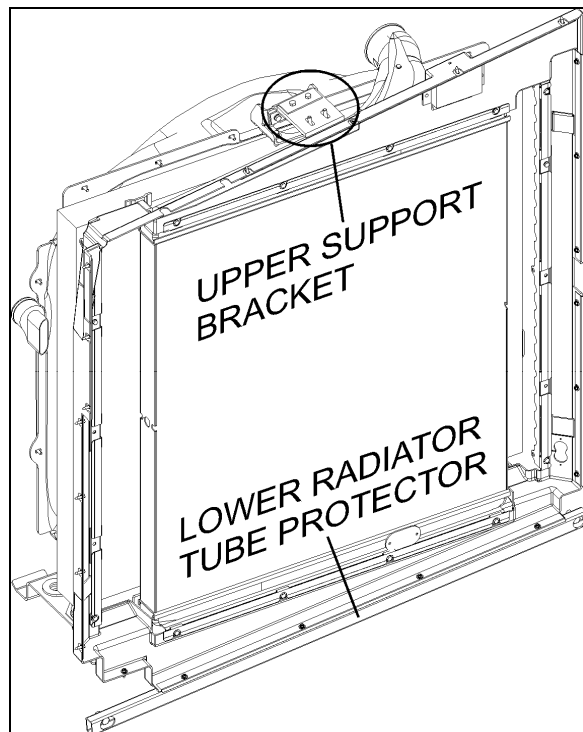

FIGURE 14: UPPER SUPPORT BRACKET & TUBE PROTECTOR
- Remove the upper radiator assembly support bracket (Fig. 14).
- Remove the lower radiator assembly tube protector from the lower section (Fig. 14).